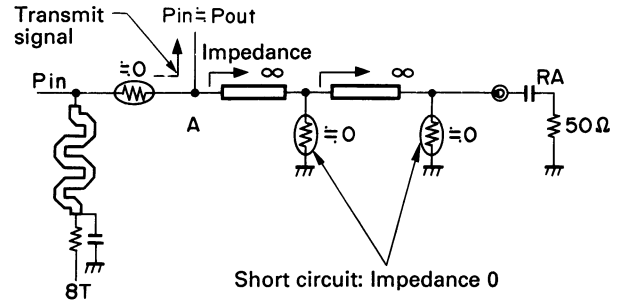
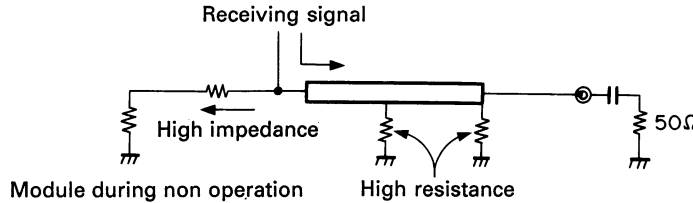

Fig. 9 Equivalent Circuit during Transmission
Fig. 10 Equivalent Circuit during Reception
Figure 9 shows the equivalent circuit during transmission. A current flows through each diode using 8T. The impedance becomes very low. At that time, the receiver side uses a $\lambda/4$ strip circuit. Therefore, the impedance becomes very high when the receiver side is viewed from point (A). The voltage from a power module is transferred to the antenna. Figure 10 shows the equivalent circuit during reception. The bias is switched off, so each diode is in a high-resistance state. The antenna and receiving circuit are connected by a strip line.